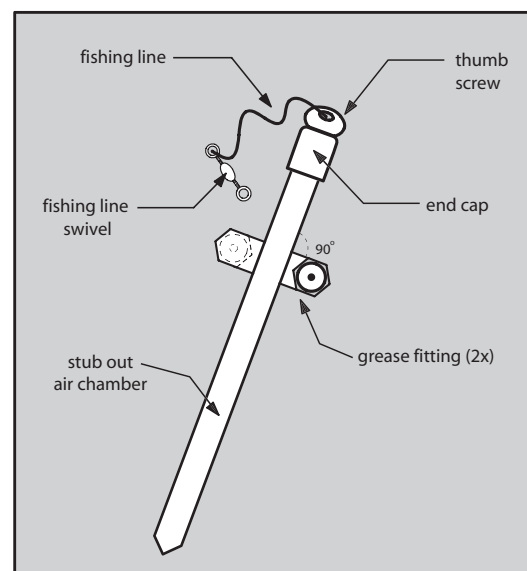

Figure 1. Hero Engine detail
3. Unscrew the grease fittings, remove the spring and ball valves, and discard them (*Note: the Hero Engine will not work if you skip this step.*) Air should now flow freely through the grease fittings. Reassemble the grease fittings and screw the fittings into the holes and position them so that they face in opposite directions from one another. Also make sure that the 90° bend in the grease fittings is perpendicular to the main air chamber tube (see Figure 1).